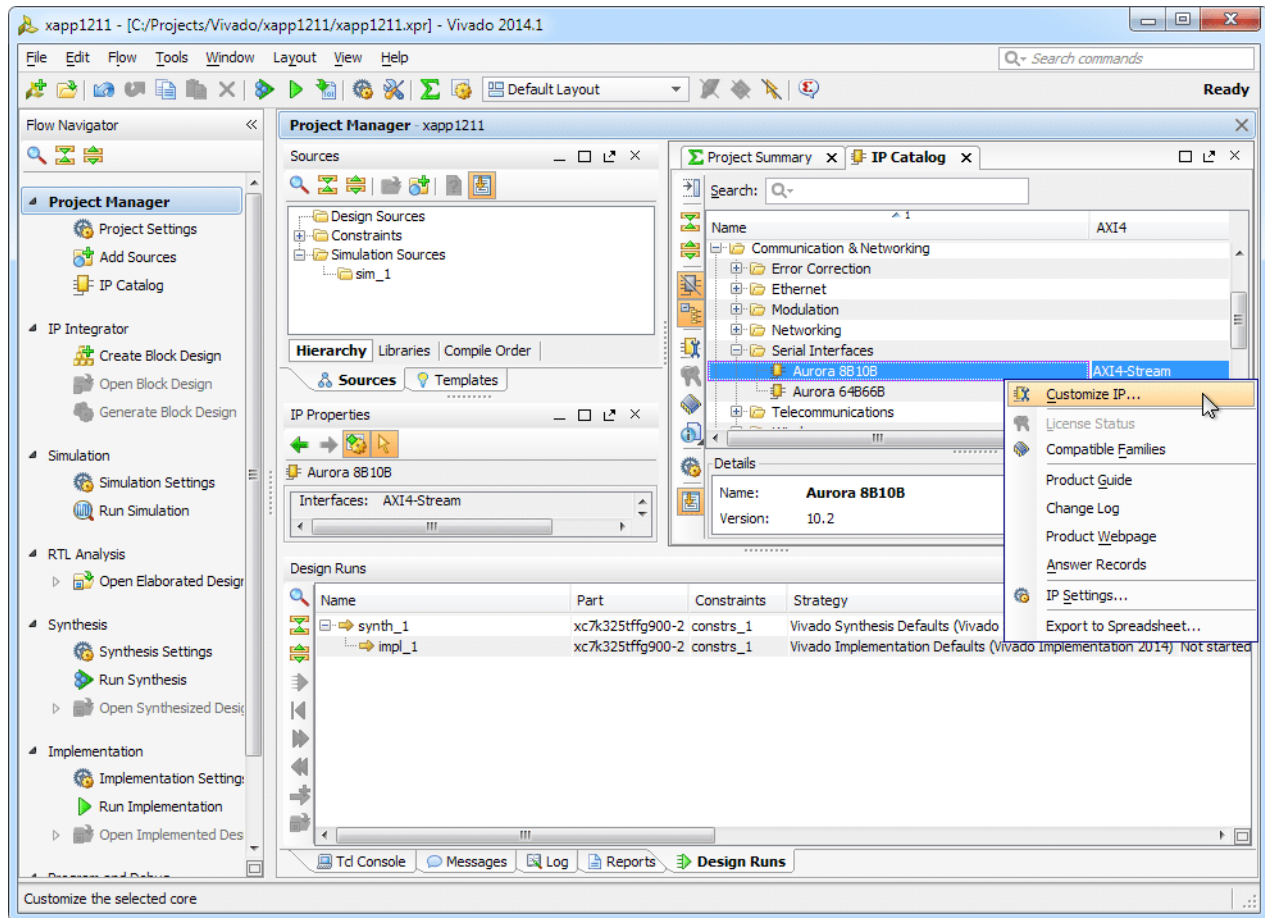

Figure 7: Customize IP
8. Right-click **Aurora 8B10B** and select **Customize IP** (Figure 7).